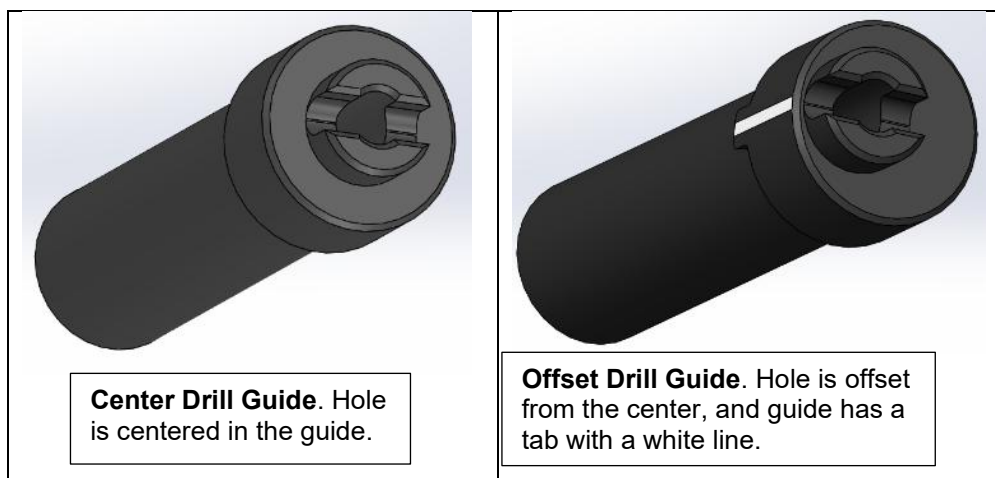

Figure 21: Center Drill Guide (Left) and Offset Drill Guide (Right)
1. **Fully tighten both roll locking screws.** If the center channel position was selected during final alignment, use the Center Drill Guide. **See Figure 21 (Left).** If one of the outer channels was selected during final alignment, use the offset drill guide **See Figure 21 (Right).** The offset guide has a tab with a white line on the side near the offset hole.